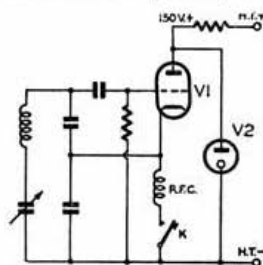

Fig. 1
Direct keying of the V.F.O. inevitably results in a deterioration of the keying characteristic of the transmitter, because the breaking of any circuit associated with the valve used for the V.F.O. stage causes frequency variations under keyed conditions. This point is not always appreciated, it being often assumed that provided the H.T. line supplying the V.F.O. is stabilised no further effects due to voltage variation can result. Reference to Fig. 1 in conjunction with the following remarks should remove any doubts on this point. When the key (K) is open, no current flows in V1, and therefore the cathode is at H.T. line potential (150 volts). Closing the key returns the cathode to earth potential, from a D.C. point of view, and consequently the action of opening and closing the key varies the anode-to-cathode potential of V1 between the extremes of zero and 150 volts. It will be apparent from this that, so far as the D.C. voltage responsible for maintaining oscillation is concerned, the H.T. line to the V.F.O. is unstabilised.